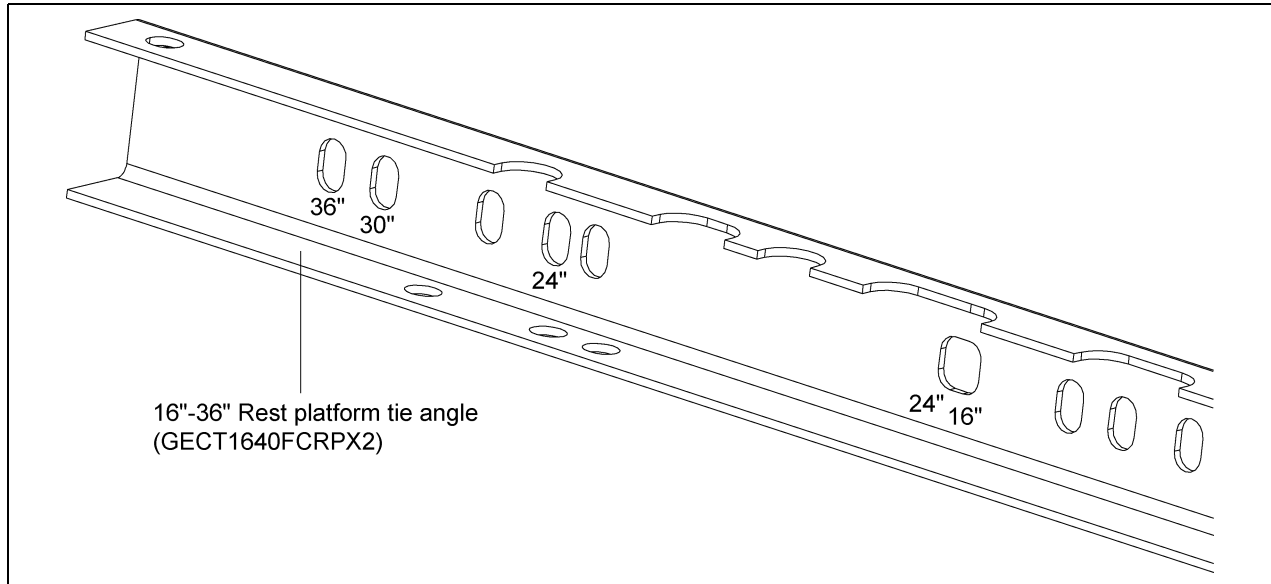

Figure 6A Tie Angle with Etched Numbers
1. Install rest platform tie angles to the lower trunking on both the ladder side and non-ladder side of the trunking. Use 1/2" x 1" bolts through the bolt holes indicated for the bucket elevator size being installed. (See Figure 6A.)